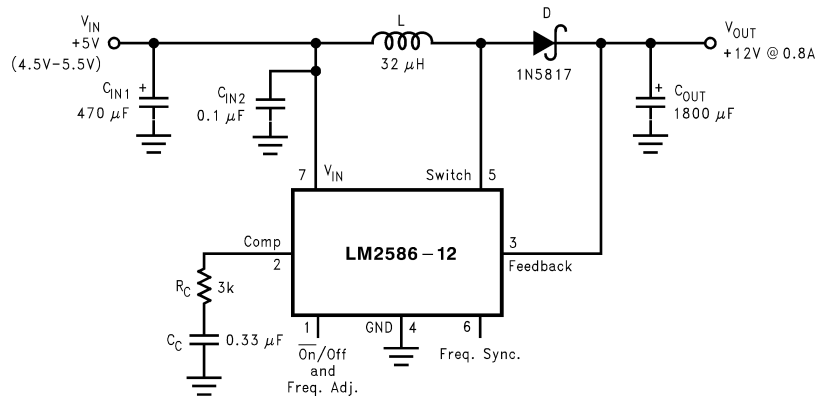

Figure 31. 12V Boost Regulator
Figure 31 shows the LM2586 used as a step-up (boost) regulator. This is a switching regulator that produces an output voltage greater than the input supply voltage.
A brief explanation of how the LM2586 Boost Regulator works is as follows (refer to Figure 31). When the NPN switch turns on, the inductor current ramps up at the rate of V_{IN}/L , storing energy in the inductor. When the switch turns off, the lower end of the inductor flies above V_{IN} , discharging its current through diode (D) into the output capacitor (C_{OUT}) at a rate of $(V_{OUT} - V_{IN})/L$. Thus, energy stored in the inductor during the switch on time is transferred to the output during the switch off time. The output voltage is controlled by adjusting the peak switch current, as described in the flyback regulator section.
By adding a small number of external components (as shown in Figure 31), the LM2586 can be used to produce a regulated output voltage that is greater than the applied input voltage. The switching waveforms observed during the operation of this circuit are shown in Figure 32. Typical performance of this regulator is shown in Figure 33.